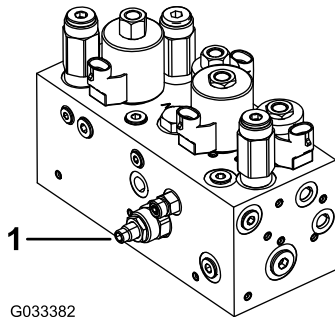

Figure 48
The cutting unit lift/drop circuit comes with a flow-control valve (Figure 48). This valve is preset at the factory at approximately 3 turns open, but you may need to adjust it to compensate for differences in hydraulic fluid temperatures, mowing speeds, etc.
1. Raise the seat and locate the flow-control valve for the center-pull frame (Figure 48), which is located on the side of the hydraulic manifold.